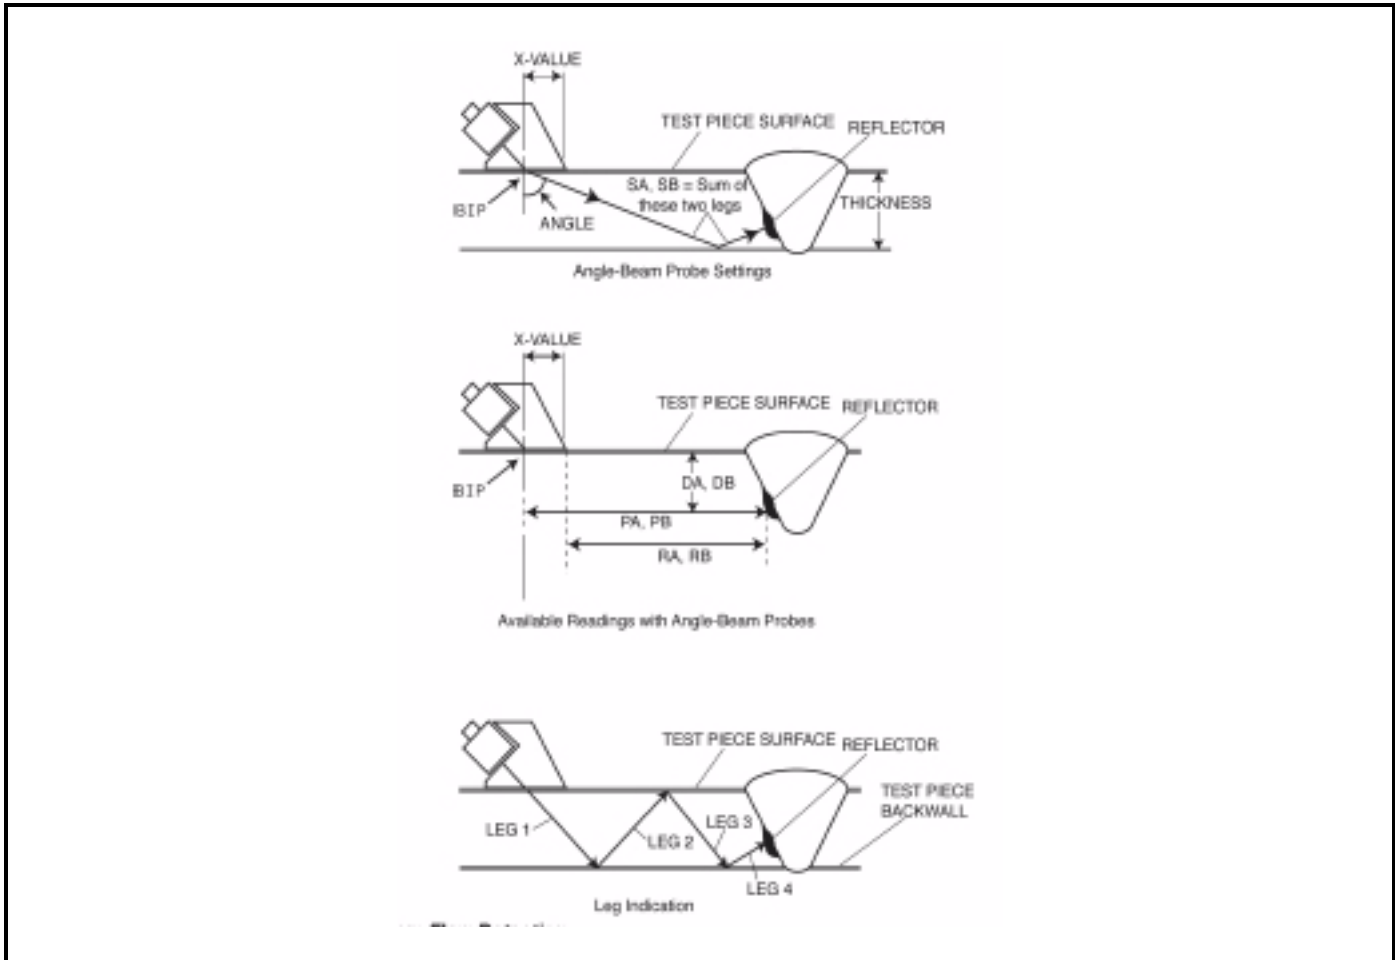

Figure 51: Angle Beam Flaw Detection
When connecting an angle beam probe to the instrument, adjustments must be made for probe characteristics as well as test-piece geometry. These features are shown in Figure 51 below and include
The leg in which a reflector is encountered, as identified in Figure 51 on the previous page, can be visually indicated on the instrument display using color. Setting the COLOR LEG function (located in the EVAL MODE submenu of the EVAL Menu) to ON will cause each ultrasonic time region to be displayed in a unique color.
- DA—Material-thickness depth from the test-piece surface (the probe-contacted side) to the reflector represented by the echo in A-Gate. (see Figure 51 on page 112)
- DB—Material-thickness depth from the test-piece surface (the probe-contacted side) to the reflector represented by the echo in B-Gate. (see Figure 51 on page 112)
- LA—Leg number of the reflector represented by the echo in A-Gate. (see Figure 51 on page 112)
- LB—Leg number of the reflector represented by the echo in B-Gate. (see Figure 51 on page 112)
- PA—Projection distance from the probe's BIP to the reflector represented by the echo in A-Gate. (see Figure 51 on page 112)
- PB—Projection distance from the probe's BIP to the reflector represented by the echo in B-Gate. (see Figure 51 on page 112)
- RA—Projection distance from the probe's BIP to the reflector represented by the echo in A-Gate, *minus* the inputted X-VALUE. (see Figure 51 on page 112)
- RB—Projection distance from the probe's BIP to the reflector represented by the echo in B-Gate, *minus* the inputted X-VALUE. (see Figure 51 on page 112)